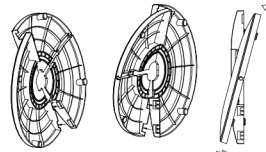

Fig. 2
2. Slot the two base plates together (Fig 2).